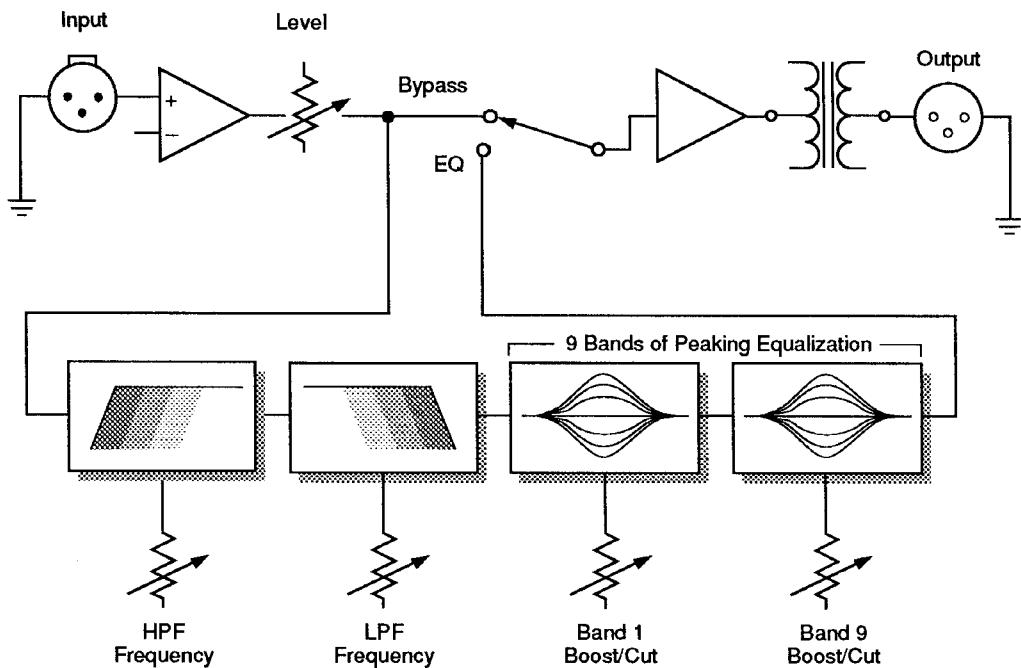

Figure 7-11. Graphic equalizer block diagram
**NOTE:** In most single-ended, interstage amplifiers, the signal source is actually connected to the '-' (inverting) input of the amplifier. This reverses the polarity of the signal, but allows gain and distortion controlling feedback to be more easily routed in the circuit. The reason the output is not reversed in polarity is that either (A) there are an even number of amplifier stages so the polarity reversals cancel out, or (B) the input or output terminals are internally reversed in polarity.
**EXAMPLE 2.** Figure 7-11 (next page) shows a block diagram of a graphic equalizer.